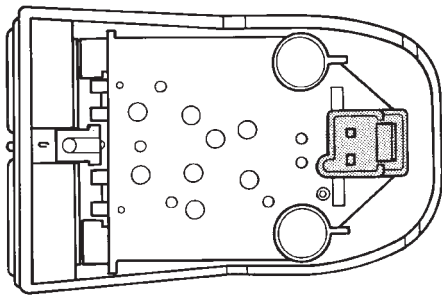

Fig. 10 Speed Control Switch 938H-8
(1) Remove the ON/OFF speed control switch assembly and disconnect the two-way connector (Fig. 10).
speed control relay connector, pin 18 (Fig. 10 and 14). If the resistance is greater than 10 ohms repair open circuit.